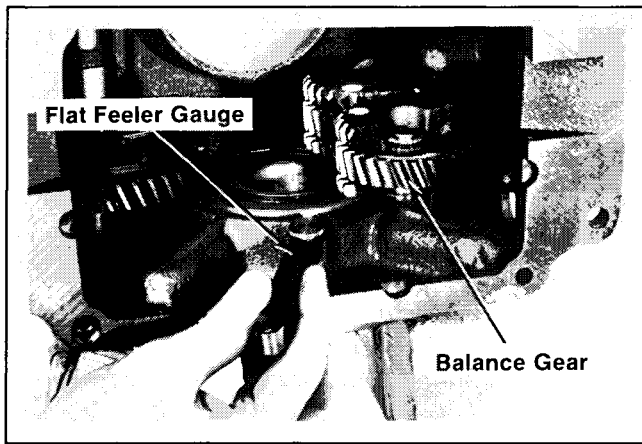

Figure 12-10. Measuring Balance Gear End Play.
2. Check end play with a flat feeler gauge. Refer to Figure 12-10. Recommended end play is $.002''$ / $.010''$. If end play is not within range, install or remove $.005''$ and $.010''$ spacers*, as necessary.